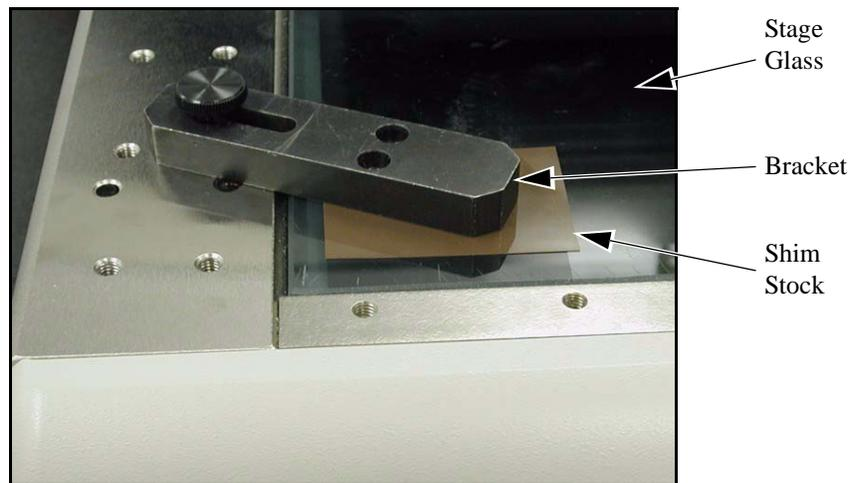

Figure 4-11 Bracket Attached to the Stage
11. Attach a bracket with a straight bottom edge to each corner of the stage. Then place 0.010" shim stock between each bracket and the stage glass (see Figure 4-11).